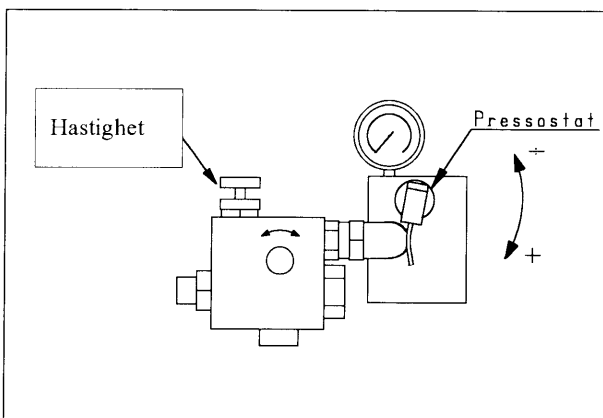

Fig. 60
- f. If red lights are on, screw pressure relief valve (fig. 60) in until lights turn off. Then screw pressure relief valve out again until the lights flash. Now the pressure relief valve is set to reverse rollers at 110 bar.